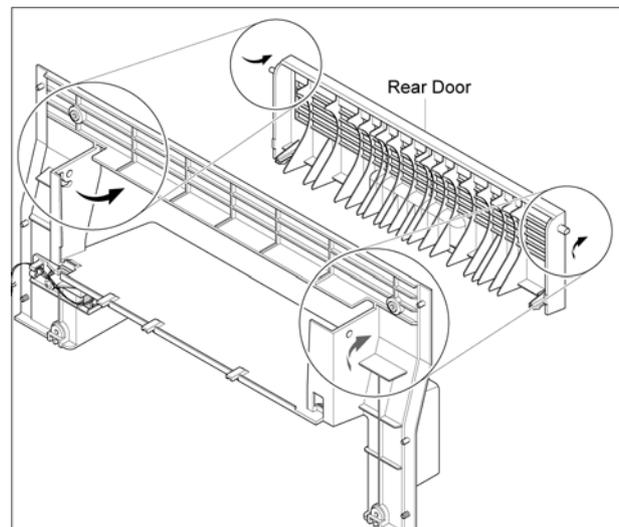

Figure 3
3. If necessary, remove the Rear Door in the direction of the arrows, Figure 3.